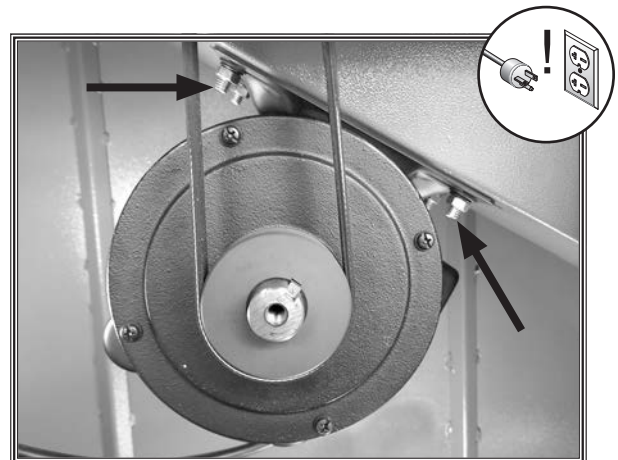

Figure 61. Location of motor mount fasteners (3 of 4 shown).
3. Loosen motor mount fasteners shown in **Figure 61**. DO NOT completely remove motor mount fasteners.
4. Press down on motor to keep tension on belt, and then tighten motor mount bracket fasteners (see **Figure 61**),
3. Loosen motor mount bracket fasteners shown in **Figure 61**.